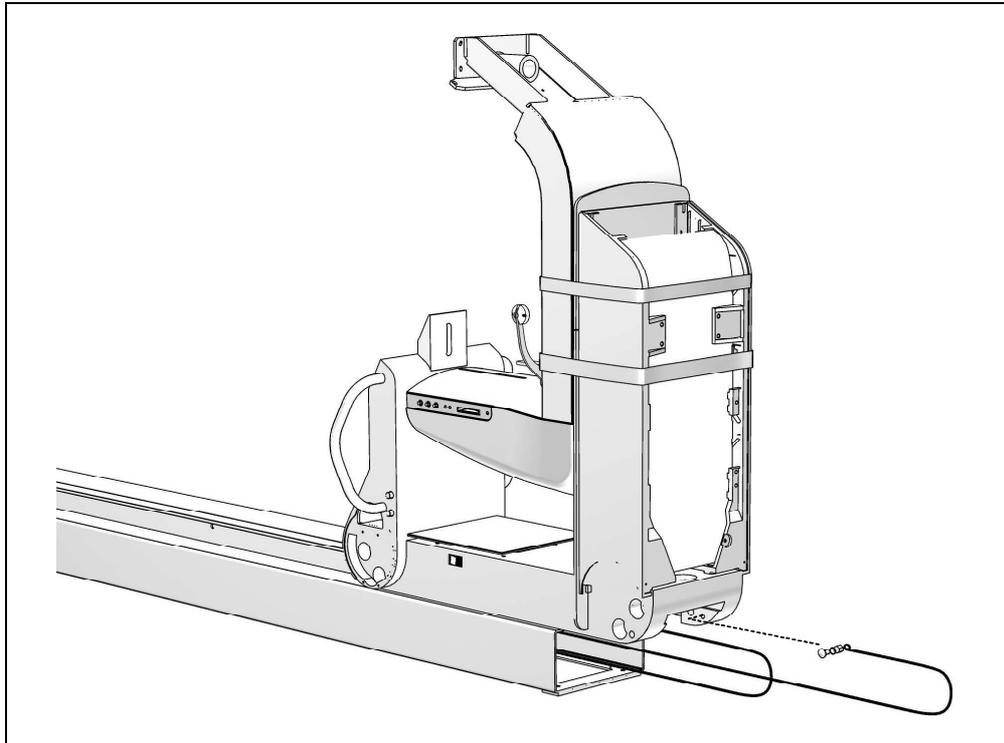

Figure 6-3
6. Align the motor group sliding bearings (49kg - 108 lbs) with the appropriate guides; insert the unit (Figure 6-3), allowing only the last ten inches to extend from column. Care must be taken not to scratch the column.
7. Stretch the metal ropes, make sure that they are not crossed, curve the ends backwards and upwards and fasten them to the motor group with the appropriate screws, washers and spacers (Figure 6-3). Fully insert the motor group on the guide.